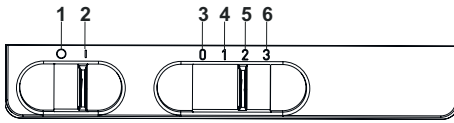

Fig. 17
- 1.** ➤ Bring to this position to turn off the lamp (Fig. 17).
- 2.** ➤ Bring to this position to turn on the lamp ( Fig. 17 ).
- 3.** ➤ Bring to this position to turn off the lamp (Fig. 17).
- 4.** ➤ Bring to this position when you want to operate the product in 1. speed ( Fig. 17 ).
- 5.** ➤ Bring to this position when you want to operate the product in 2. speed ( Fig. 17 ).
- 6.** ➤ Bring to this position when you want to operate the product in 3. speed ( Fig. 17 ).